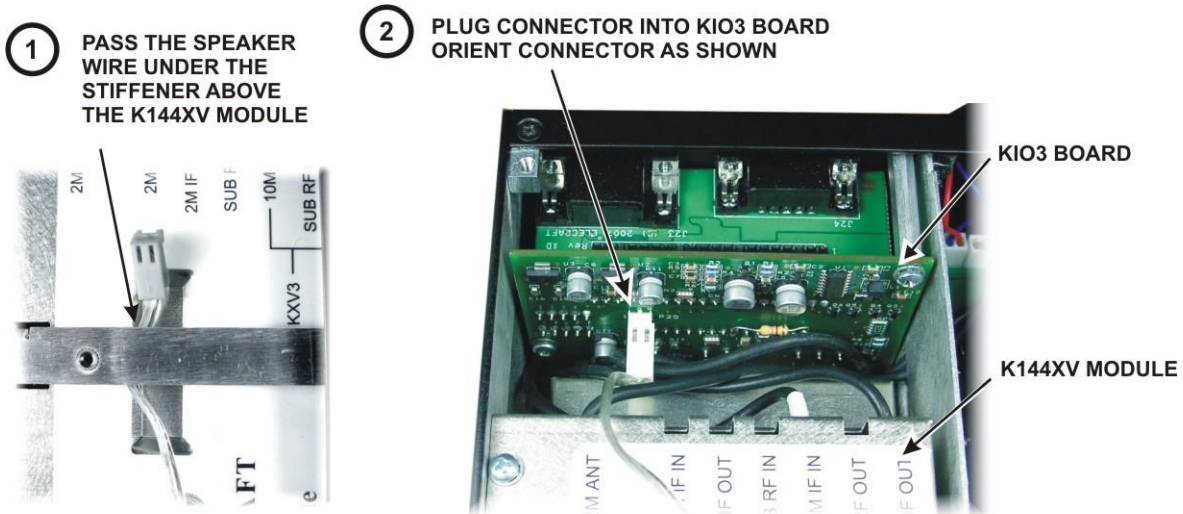

Figure 12. Connecting the Speaker Cable.
□ Hold the top cover above the K3, route the speaker wire under the stiffener bar. Route it under the stiffener bar at the depression in the top of the K144XV module as shown in Figure 12 and plug it into P25 on the KIO3 board at the left rear of the K3.